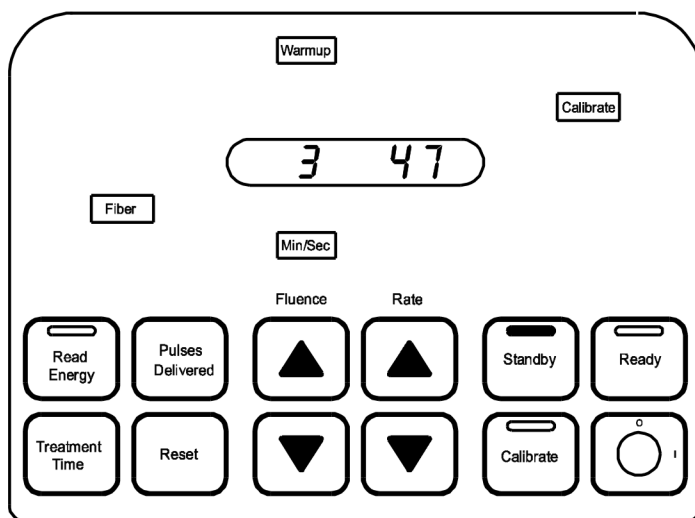

**Figure 2**
3. At the end of the lamp test, **Standby** and **Testing** are illuminated (Figure 2). The software version number will display following the lamp test.